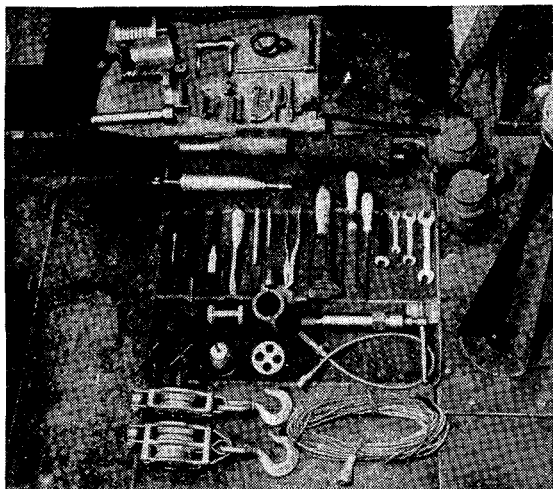

FIGURE 46.—Display of equipment—breech block and gun tools, 75-mm.
f. For illustration of the display of different types of equipment, see figures 46 to 50 inclusive.